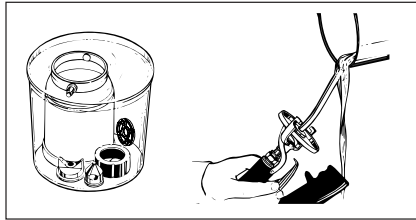

Figure 16 - Cleaning The Spray Gun Parts
- Place the parts and the paint cup in a bucket or other suitable container. Soak the parts in a suitable solvent, or in soap and water if latex was used (See Figure 16). To clean the gun, flush a suitable cleaning solvent through the material tube until the solution begins to clear. Repeat the procedure from the nozzle end of the gun (See Figure 16).